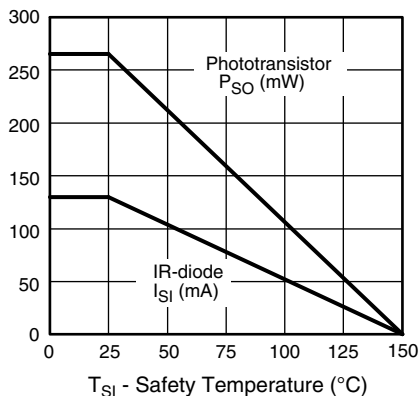

Fig. 2 - Derating Diagram
- According to DIN EN 60747-5-5 (VDE 0884), § 7.4.3.8.2 (see figure 2). This optocoupler is suitable for safe electrical isolation only within the safety ratings. Compliance with the safety ratings shall be ensured by means of suitable protective circuits.